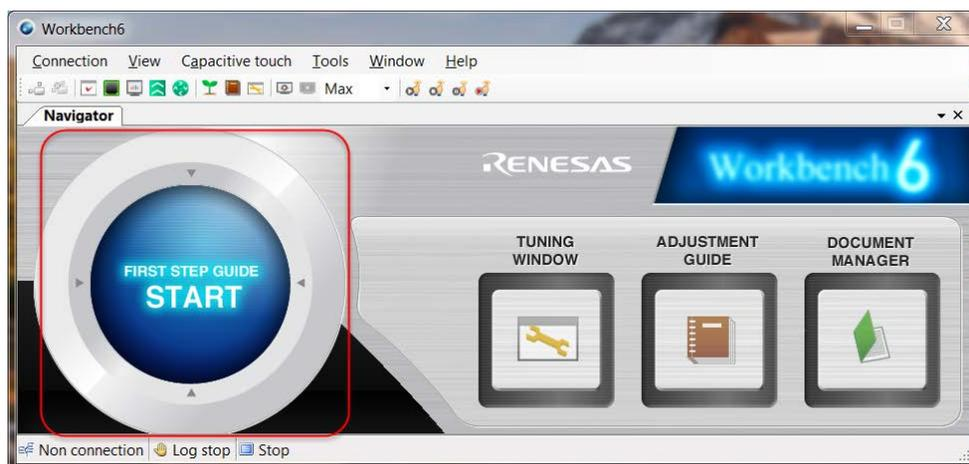

Figure 7: Location of 'First Step Guide START' in the Workbench GUI.
3. Start Workbench6, locate the blue button that displays the 'First Step Guide START' to calibrate the CTSU, which depends on the MCU operating environment and capacitive touch sensor board layout. The 'First Step Guide START,' is located in Figure 7.